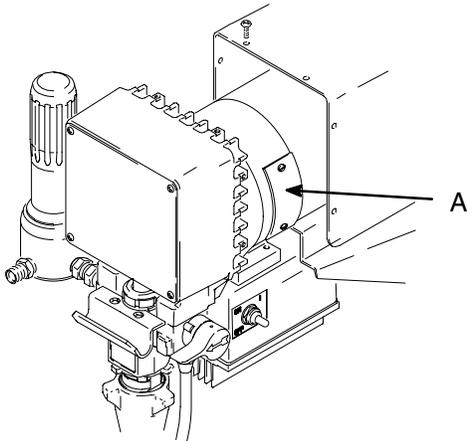

Fig. 5 TI0041
2. Remove both inspection covers (A) and their gaskets. See Fig.5.